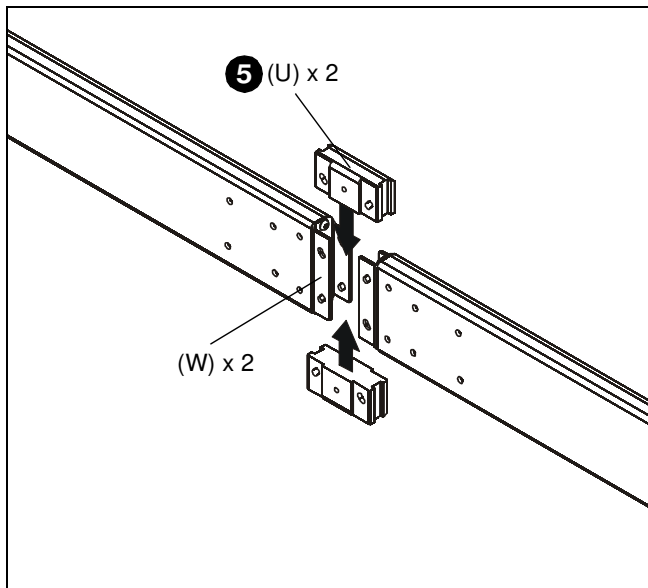

Figure 4
5. Place two extender blocks (U) in position between two extender brackets (W). Be sure to line up holes on blocks and brackets. (See Figure 4)